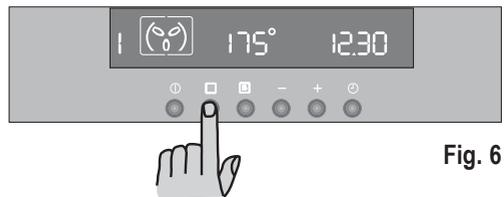

Fig. 6
2) Press button **1** to select the required oven function. Each time button **1** is pressed, a cooking symbol will appear in the display and the corresponding cooking function number will appear to the left of the currently selected cooking function symbol (Fig. 6).